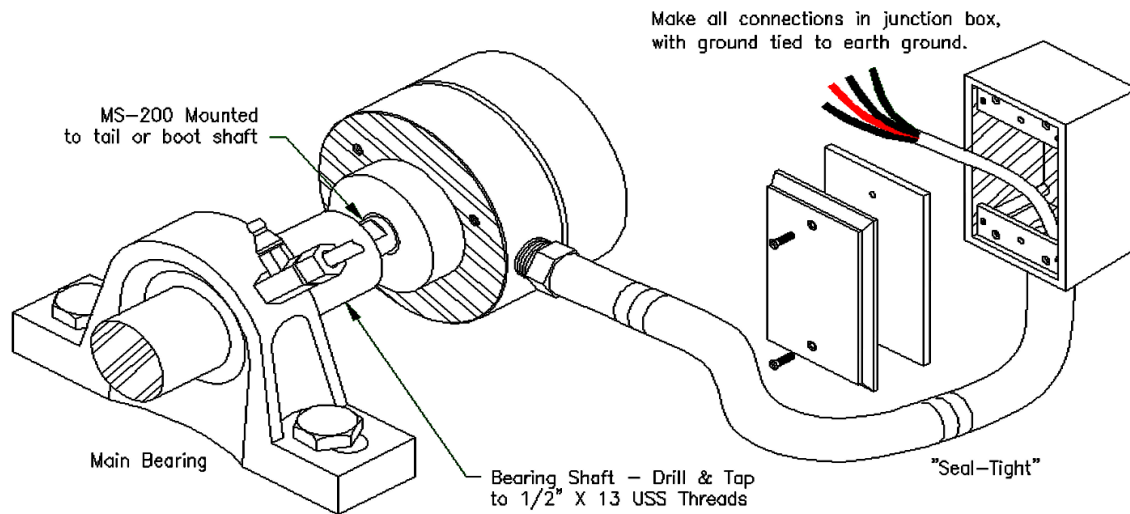

Figure 22. MS-200-60 Mounting to Bearing shaft.
**5.1.3.1.6.** Feed the 18 AWG 4-conductor cable through the appropriate "Seal-Tight" from the MS-200 and attach to a junction box. (See figure 22). Use CCL-318 cable to connect from the MS-200 to the BT8/BTX Module.